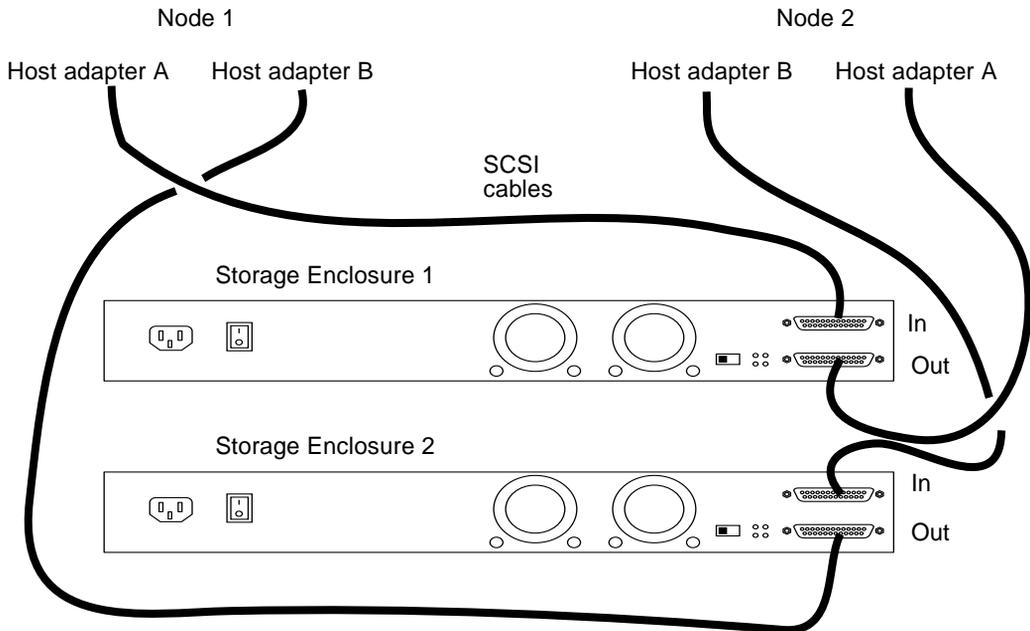

FIGURE 10-6 Example of a Netra D130/StorEdge S1 enclosures mirrored pair
17. Connect the Netra D130/StorEdge S1 enclosures to the host adapters as shown in FIGURE 10-6 using the appropriate SCSI cables. (Remove the SCSI terminator you installed in Step 5.)